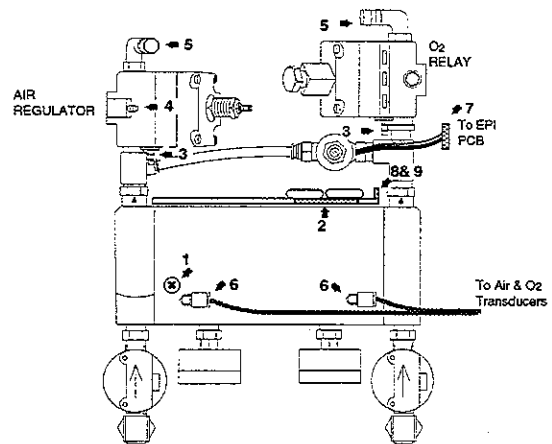

Figure 8-4
- Remove the pneumatic and electrical connections indicated in Figure 8-4 Ref. 1 - 9, marking as required to facilitate re-assembly.